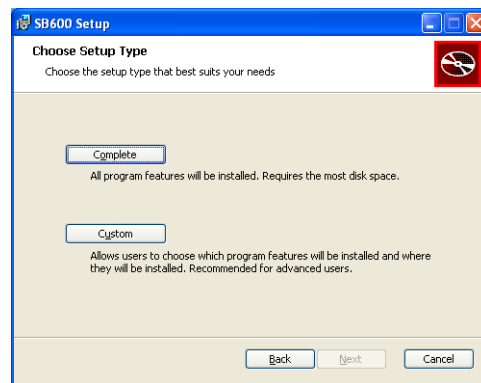

Fig. 2
- c) The Choose Setup Type window shows two choices of installations, select the "Complete" button and allow the full installation (Fig. 2) above.